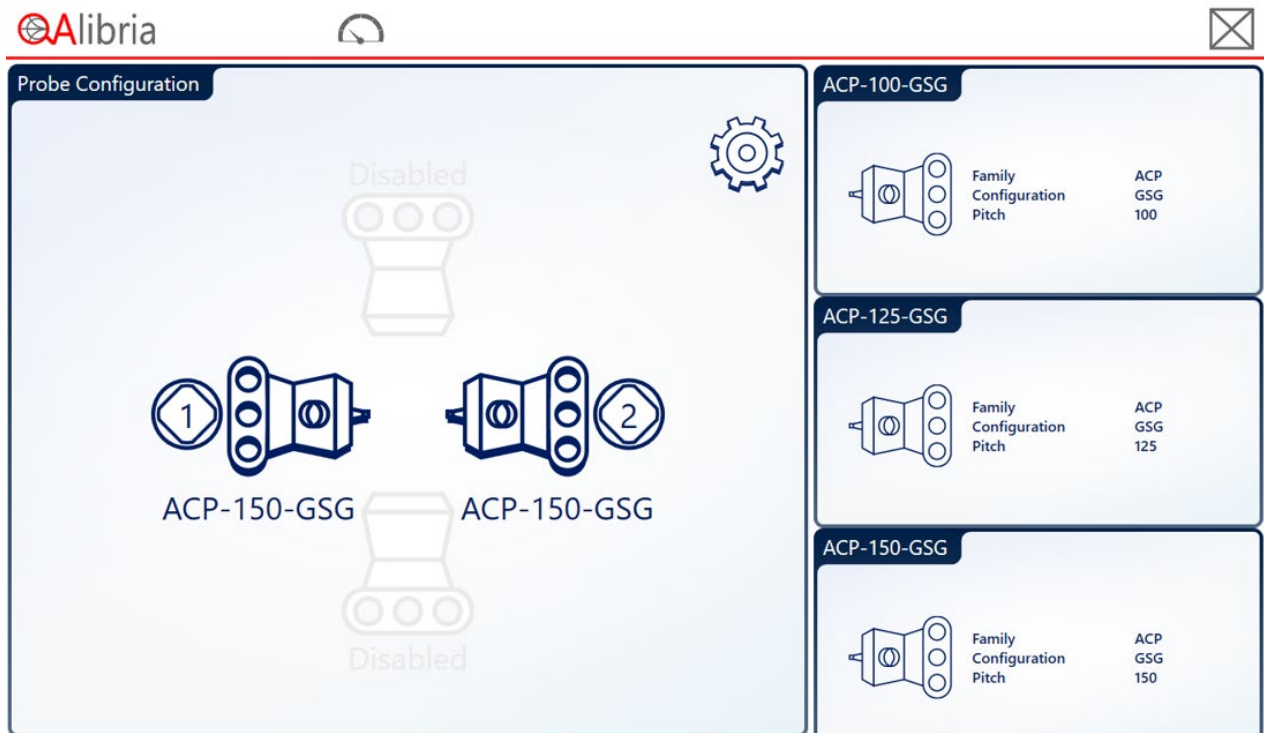
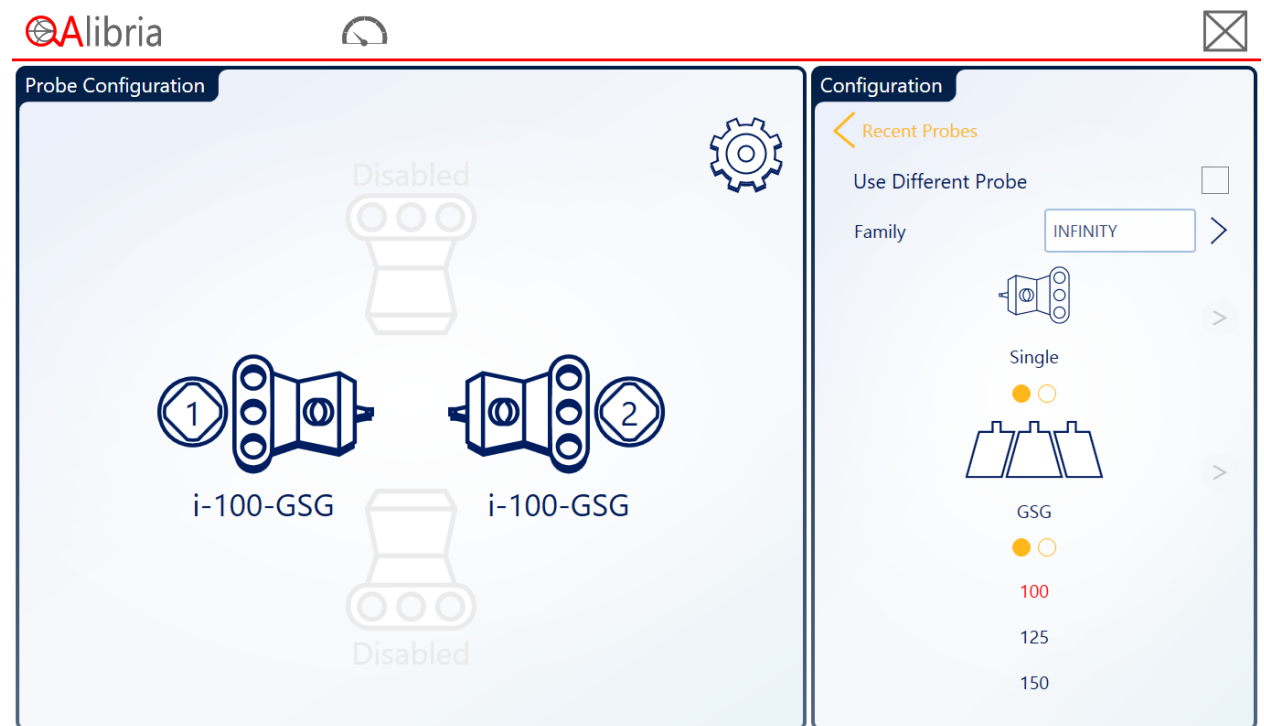

Fig. 7.10. Probe configuration.
Fig. 7.11. Probe configuration details.
- 7.16 In the "Probe Configuration" module, click on   and Fig. 7.10 shows up. To choose the probe model, click on  and Fig. 7.11 pops up. In the right module "Configuration," Check "Use Different Probe" only if the Port 2 probe is different from the Port 1 probe. On the right of "Family," click on > to choose the probe family, then "< Configuration" to return on Fig. 7.11. Under , only "Single" is allowed because the present VNA has only one channel between Port 1 and Port 2. Under , change "GSG" to "GS/SG" if you have those types of probes. Under "GSG" or "GS/SG," select the probe pitch. The selected probe pitch will be highlighted in red. Click on  near the top of the "Configuration" module to go back to Fig. 7.10. Then click on ↶ to go back to the QAlibria home screen (Fig. 7.9.) QAlibria will automatically update the calibration coefficients based on the probe model you selected. If your probes are not listed, QAlibria will not know what calibration coefficients to use. In this case, you can click on  in the "Calibration Method" panel of the home screen to chose another calibration method such as TMRR as shown in Fig. 7.12.